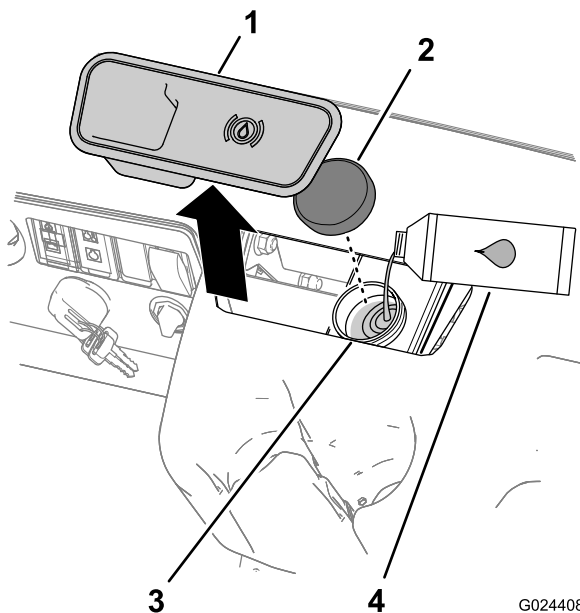

Figure 13
2. Remove the rubber plug in the center and on top of the dash to gain access to the master brake cylinder and reservoir (Figure 13).
- A. Clean the area around the reservoir cap, and remove the cap (Figure 13).
- C. Install the reservoir cap (Figure 13).